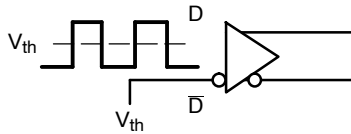

Figure 16. Differential Input Driven Single-Ended
**Differential Input Driven Single-Ended (see Figures 16 & 18)**